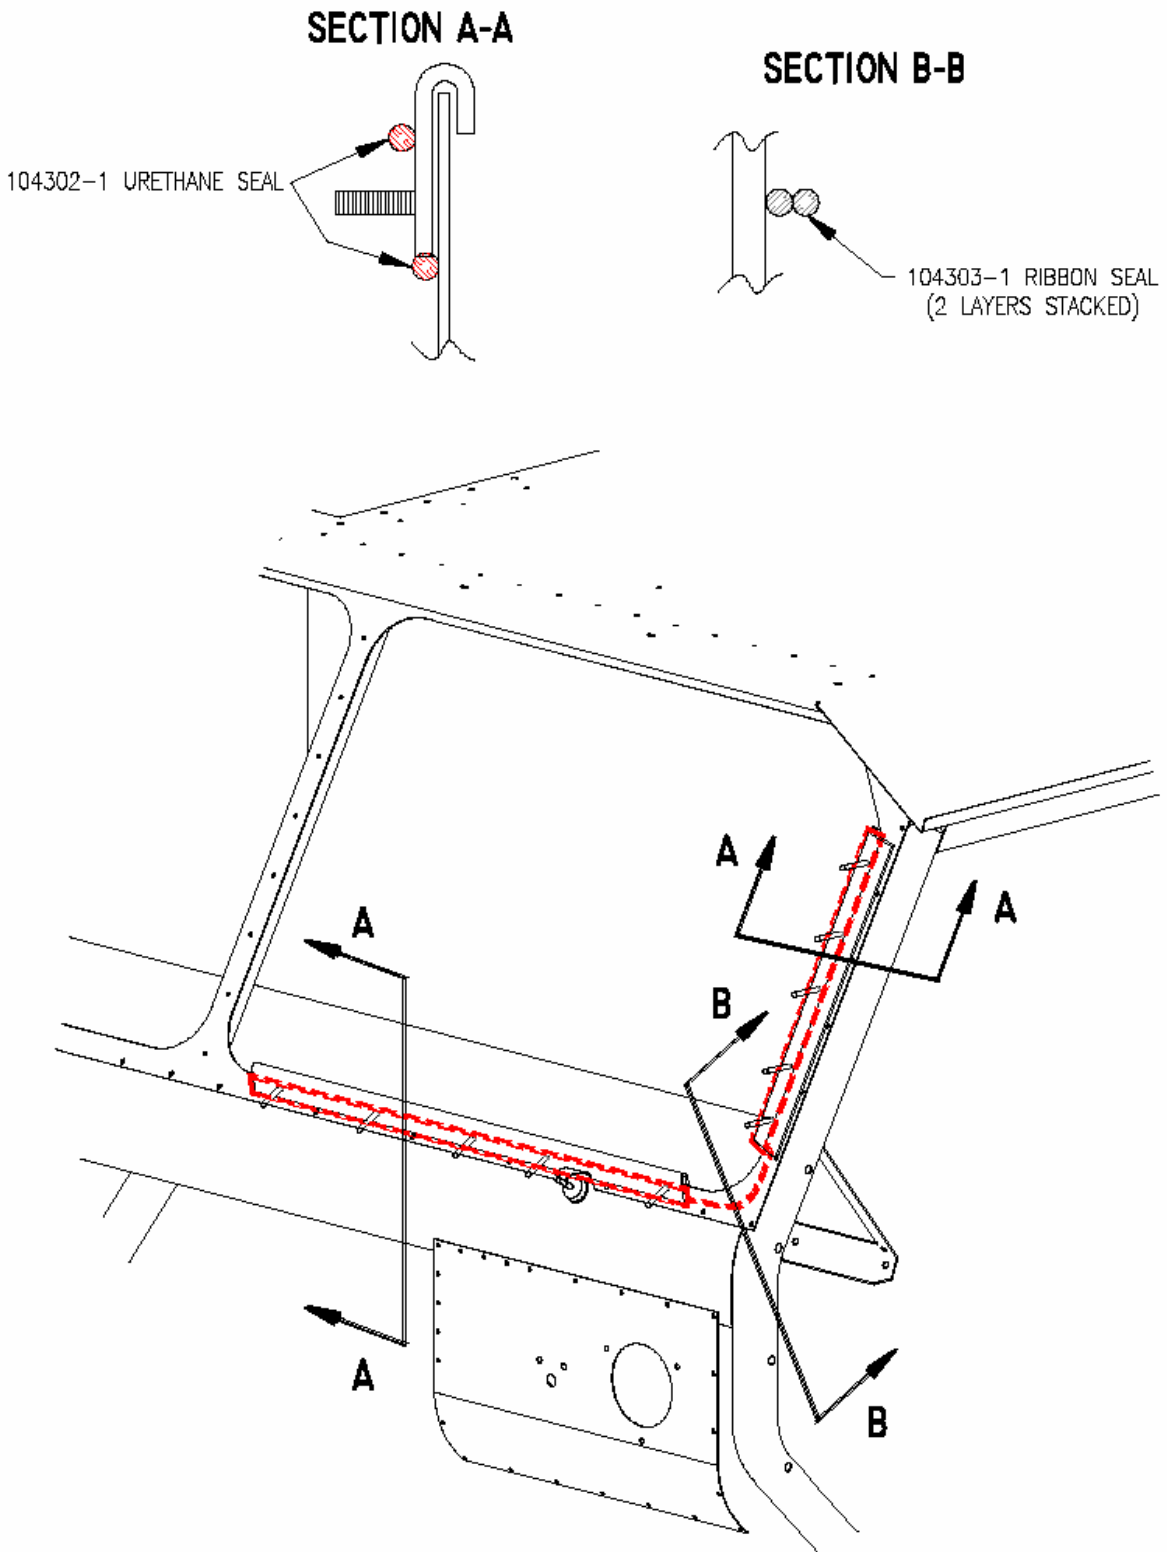
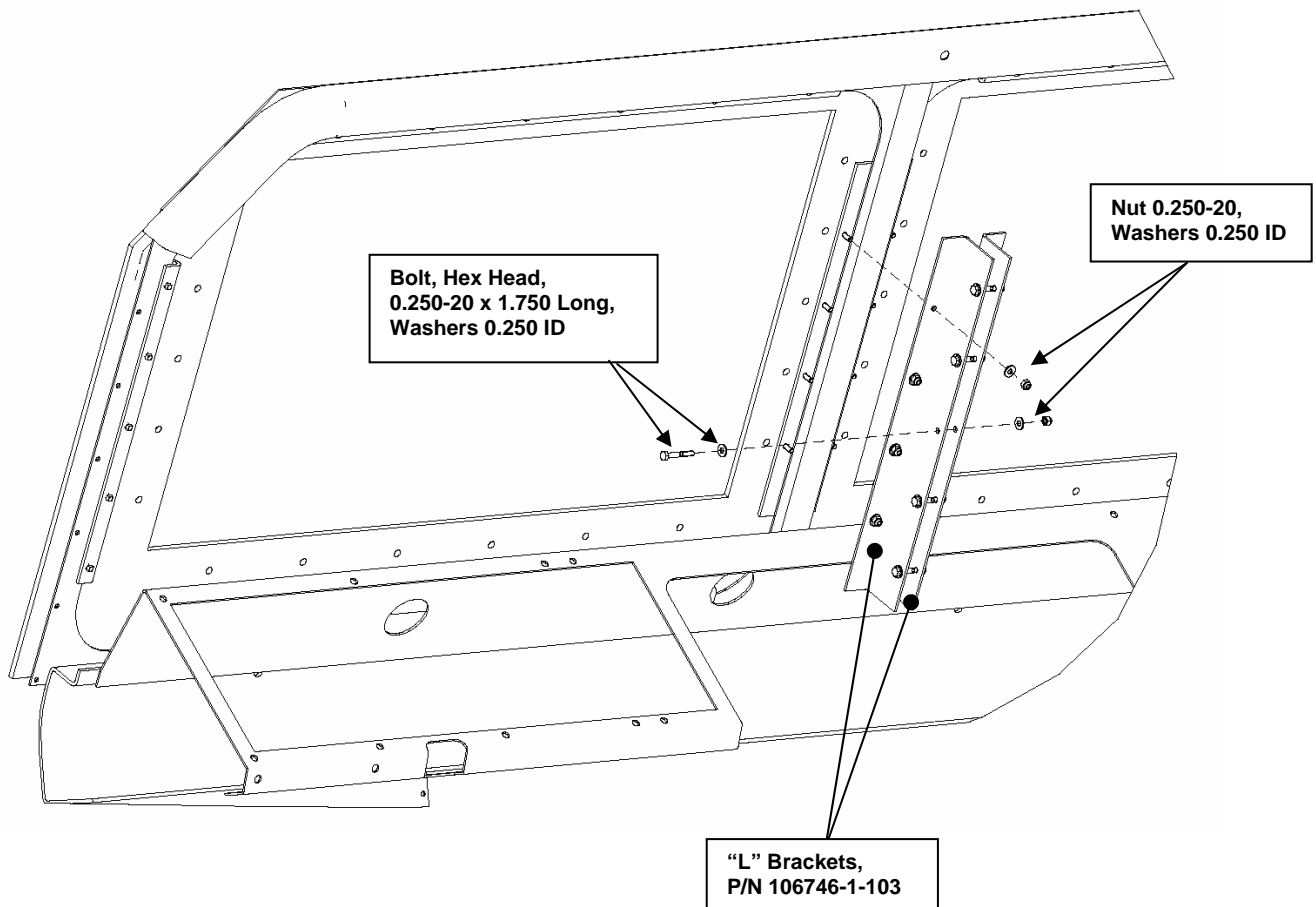

Figure 19. Urethane Sealant and Ribbon Sealer vehicle locations.
Figure 20. "L" Bracket Installation.
- i) To create an environmental seal between the Vehicle Cab and Windshield Frame apply the Urethane Sealant (P/N 104302-1) and the Ribbon Sealer (P/N 104303-1) as shown in Figure 19. If required, use additional sealant from the Front and Side Armor Kits.
- j) Attach the Windshield Frame Assembly to the vehicle as previously done in Step (g) using thirty-six (36) 0.250-in. self-locking nuts and thirty-six (36) 0.250-in. ID washers. Apply light oil to the studs prior to installation of the nuts. Torque to 6 ft-lb.
- l) Install the “L” Brackets (P/N 106746-1-103) using the fasteners, as shown in Figure 20. Apply light oil to the studs prior to installation of the nuts. Torque to 6 ft-lb.